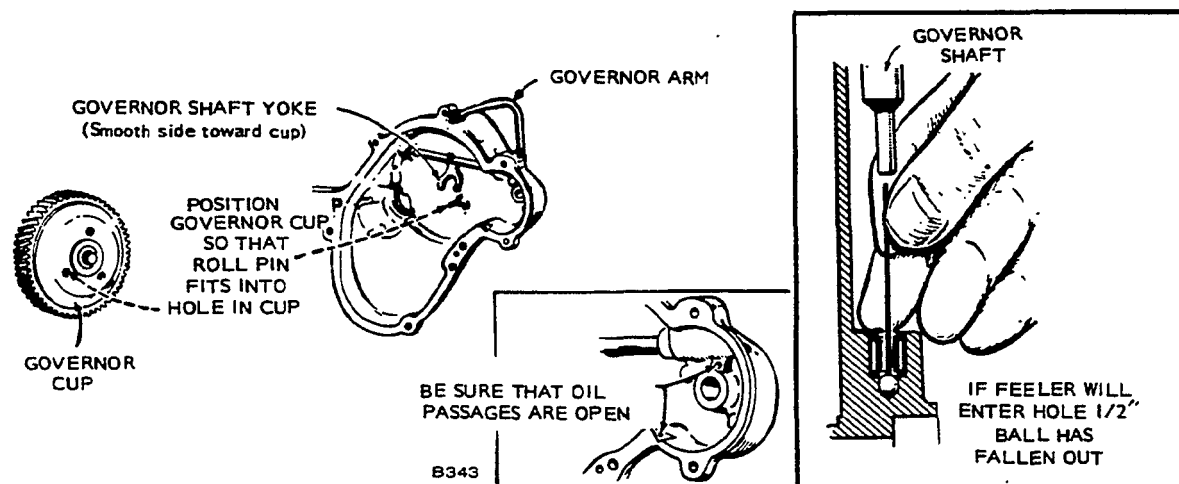

FIGURE 106. GEAR COVER ASSEMBLY
The governor shaft is supported by two sets of needle bearings. To remove the shaft, remove the yoke and pull the shaft from the gear cover. If the shaft is binding, clean the bearings. If loose, replace the bearings. To remove the larger bearing, drive both bearing and oil seal out from the outside of the gear cover. Remove the smaller bearing with an Easy-Out or similar tool. Press new bearings and oil seal into place. See Figure 106.
1. Work governor shaft to check for binding and see that the governor shaft end-thrust ball is in place (Figure 106). Later models have larger ball which will not fall out.